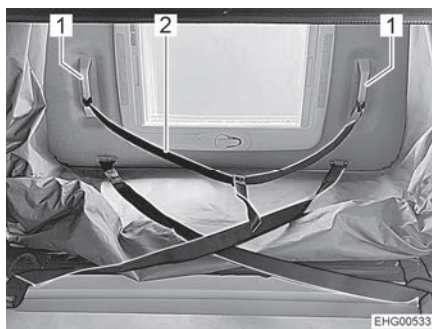

Fig. 97 Auxiliary strap
- Slowly pull the elevating roof down two thirds by the auxiliary strap (Fig. 97,2) until the elevating roof stops on its own. While doing so, observe the following:
- Pull the elevating roof down completely using the two U-handles (Fig. 97,1) until the side locks snap in audibly.